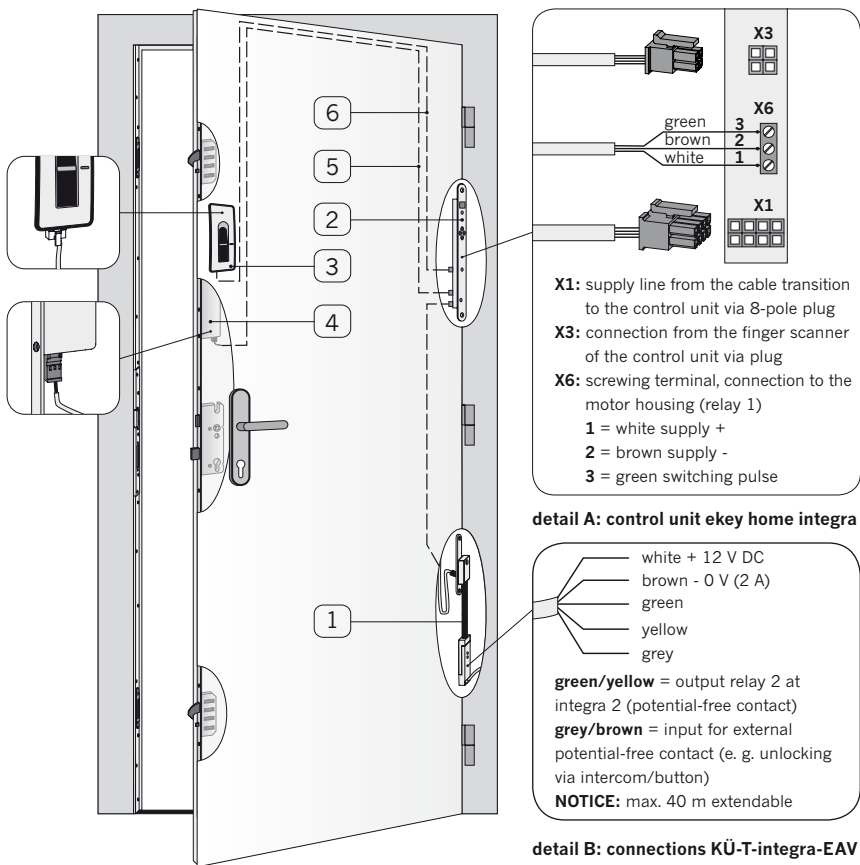

figure 3.6.1-1: wiring EAV and finger scanner ekey home integra
- If parallel to the access control another open signal (potential-free signal: e. g. „Open“ button, intercom, ...) should be used for unlocking, then it is possible via the cable transition KÜ-T-integra-EAV **1** (see figure: 3.6.1-1, detail B → connection grey/brown).
- Assembly connection between control unit ekey home integra (2) and motor housing EAV (4). For this connect the wires of the cable of 2 m (included in delivery of the integra - EAV (5)) with terminal X6 (see figure: 3.6.1-1, detail A). After this plug-in the blue plug into the motor housing.
- This potential-free signal can be tapped at the wires green/yellow of the frame part of the separable cable transition KÜ-T-integra-EAV **1** (see figure 3.6.1-1, detail B → connection green/yellow).